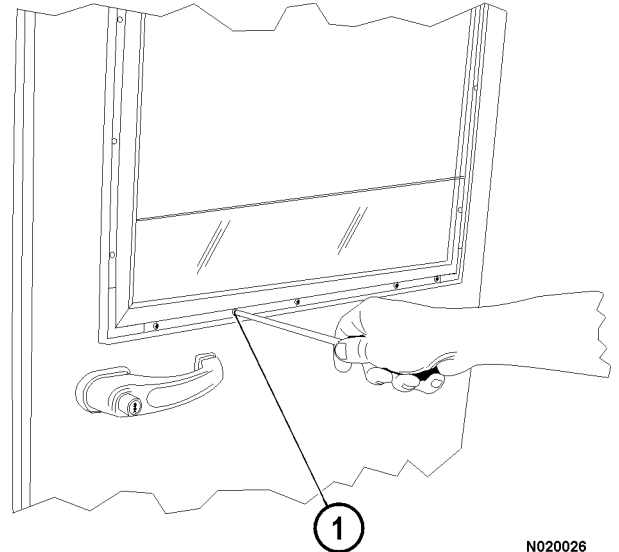

FIGURE 2-11.
5. Remove the trim material covering the screws holding the window frame to the door. Remove screws (1, Figure 2-11).